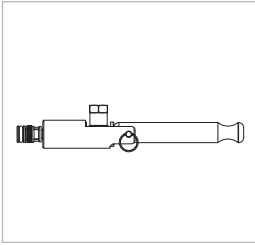

Figure 2
- ▶ Move the clamping lever (Pos. 2) to the straight starting position (Figure 2).